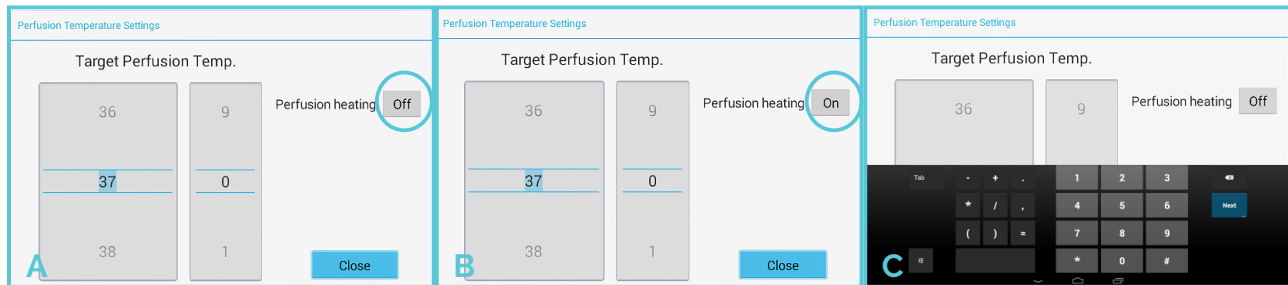

Fig. 21.: A., B. and C.: Entering the Perfusion buffer temperature.
or by pressing the actual number to show a numeric keyboard to enter the values, as shown in the fig.21.A, B. and C.
- Turn on the heating unit by activating Perfusion Heating by pressing the Off icon. The icon will change to On as shown in fig.21.B.